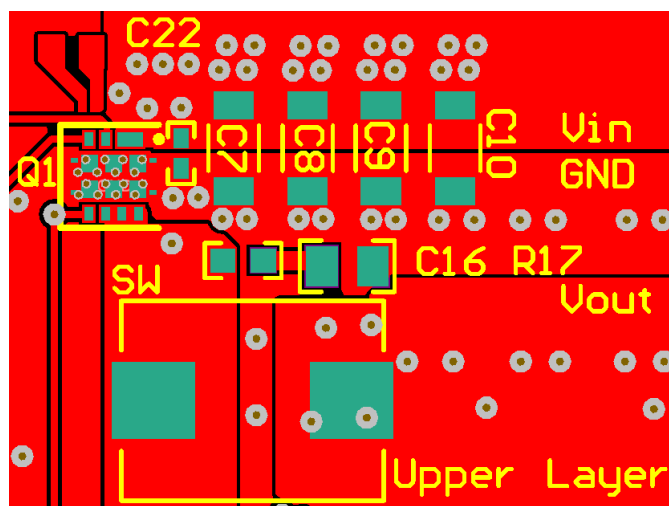
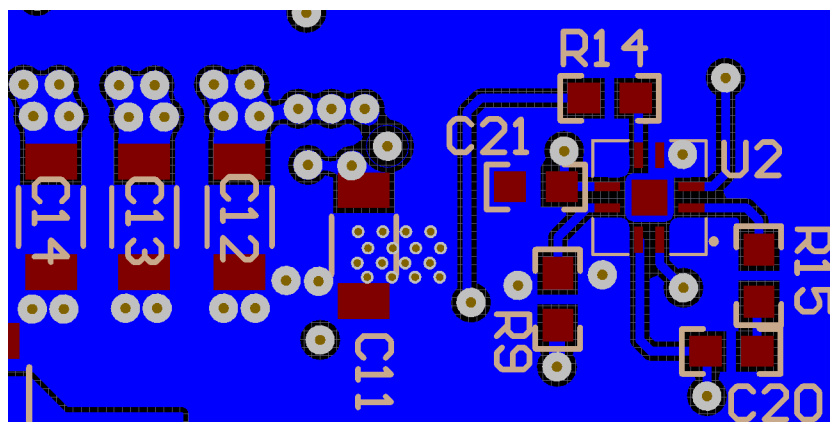

图 33. Recommended PCB Layout (Top Down View)
图 34. Recommended PCB Layout (Bottom View)
- The placement of the input capacitors relative to the power block's VIN and PGND pins should have the highest priority during the component placement routine. It is critical to minimize these node lengths. As such, ceramic input capacitors need to be placed as close as possible to the VIN and PGND pins (see Figure 33). It is recommended that one 3.3-nF (or similar), 0402, 50-V ceramic capacitor be placed on the top side of the board as close as possible to VIN and PGND pins. In addition, a minimum of 40 μF of bulk ceramic capacitance should be placed as close as possible to the power block in a design. For high-density design, some of these ceramic capacitors can be placed on the bottom layer of PCB with appropriate number of vias interconnecting both layers.
- The switching node of the output inductor should be placed relatively close to the power block VSW pins. Minimizing the node length between these two components will reduce the PCB conduction losses and actually reduce the switching noise level. In the event the switch node waveform exhibits ringing that reaches undesirable levels, the use of a boost resistor or RC snubber can be an effective way to easily reduce the peak ring level. The recommended boost resistor value will range between 1.0 Ω to 4.7 Ω depending on the output characteristics of driver IC used in conjunction with the power block. The RC snubber values can range from 0.5 Ω to 2.2 Ω for the R and 330 pF to 2200 pF for the C. Please refer to Snubber Circuits: Theory, Design and Application (SLUP100) for more details on how to properly tune the RC snubber values. The RC snubber should be placed as close as possible to the VSW node and PGND (see Figure 33 and Figure 34).(1)
(1) Keong W. Kam, David Pommerenke, "EMI Analysis Methods for Synchronous Buck Converter EMI Root Cause Analysis", University of Missouri – Rolla
- Use the smallest drill size allowed in your design. The examples in 图 33 and 图 34 use vias with a 10-mil drill hole and a 16-mil capture pad.